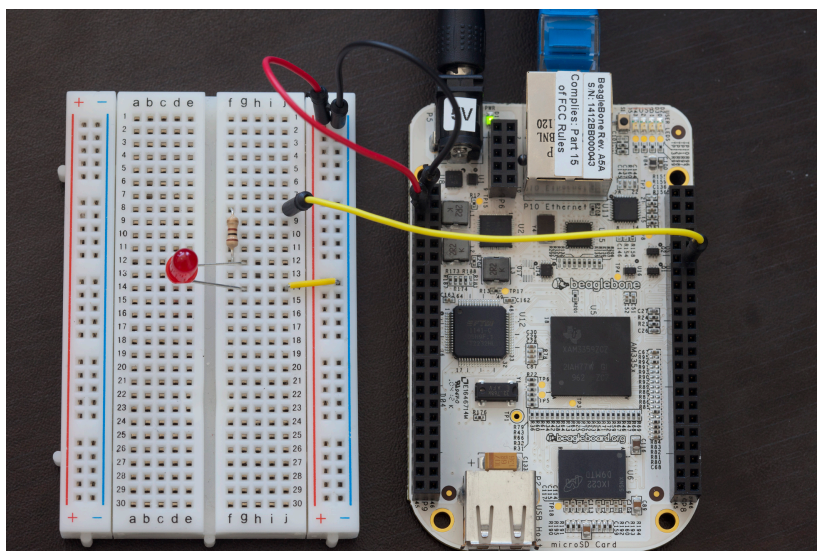

Figure 4-3. Wiring up an LED to GPIO to pin 12 on header P8 (GPIO 44)
6. Connect the other side of the 100 ohm resistor to pin 12 on header P8. On a 100 ohm resistor, the color bands printed on it will be brown, black, brown, and then gold or silver. Your circuit should look like Figure 4-3.